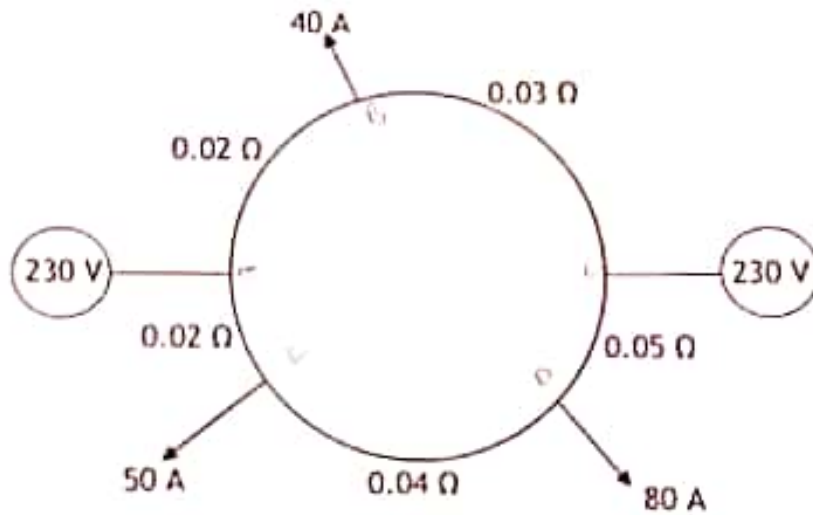

Fig Q1
1. Fig Q1 shows a d.c. ring main supplied by two 230 V generators. The cable section resistances are for go and return.